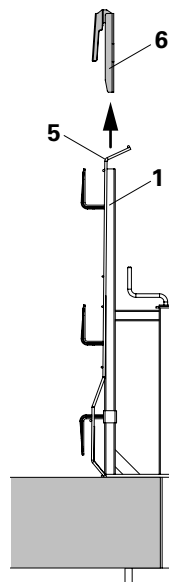

Fig. A5.02
1. Release the Clamping Holder GH-2 (6) by means of light hammer blows, and pull out upwards. (Fig. A5.02)